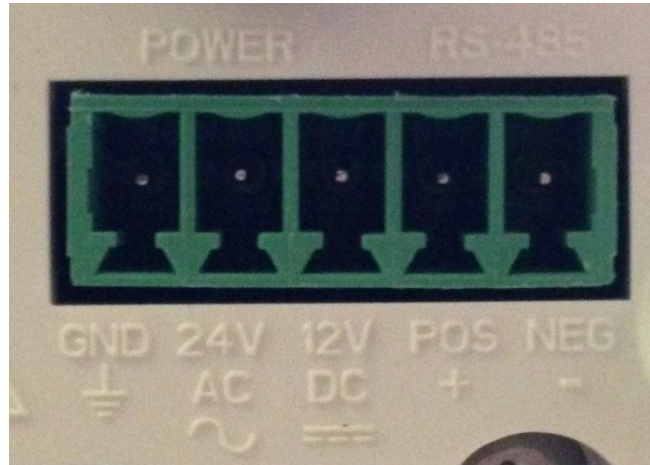

Figure 16: IP Elite 3000 & 6000 Pin-Out
- c. AC/DC Power for IP Elite 3000 and 6000: Connect wires to power block according the pin-out shown in Figure 16:
4. RS-485: Connect wires to power block according to the pin-out shown in Figure 16.